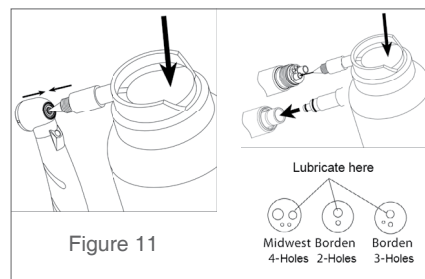

Figure 11
1. After cleaning the handpiece, apply lubricant before sterilization. lubricant is placed in the smaller of the 2 large holes at the base of the handpiece. Use only a high quality lubricant such as BeyesLube.(Figure 11)